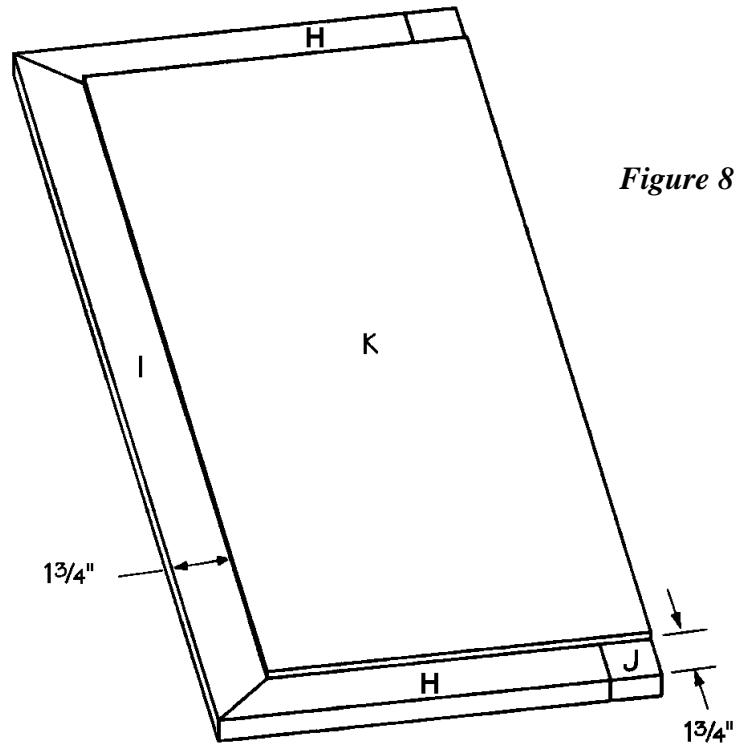

Figure 8
11. Repeat Steps 25 through 28 three more times using the remaining six top/bottom door trims (H), three wide side door trims (I), and three narrow side door trims (J).
13. Place a routed trim assembly (routed side down) on a flat surface. Place a door panel (K) over the assembly, flush with the outer edge of the narrow side door trim (J), as shown in *Figure 8*. The other three trim pieces (H and I) should be exposed by 1-3/4 inches. Apply glue to the meeting surfaces, and nail through the door panel (K) into each of the four trim pieces (H, I, and J), using small 3/4 " brads, placed about every 4 inches.
13. Place a routed trim assembly (routed side down) on a flat surface. Place a door panel (Z) over the assembly, flush with the outer edge of the narrow side door trim (y), as shown in *Figure 8*. The other three trim pieces (W and X) should be exposed by 1-3/4 inches. Apply glue to the meeting surfaces, and nail through the door panel (Z) into each of the four trim pieces (W, X, and Y), using small 3/4 brads, placed every 4 inches.